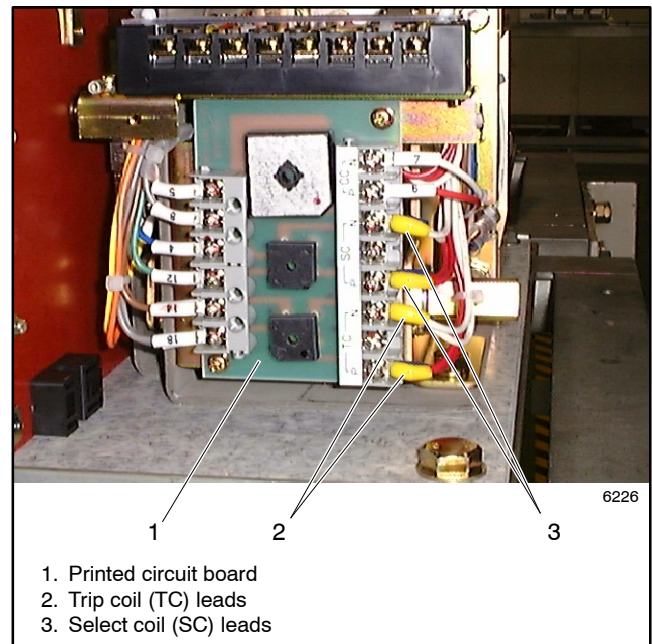
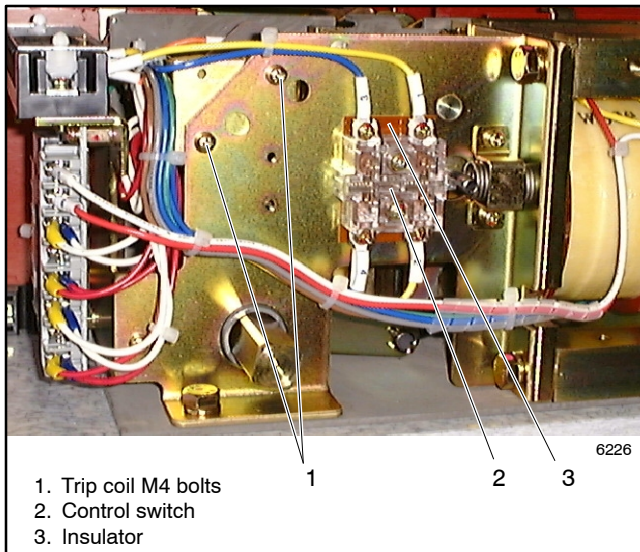
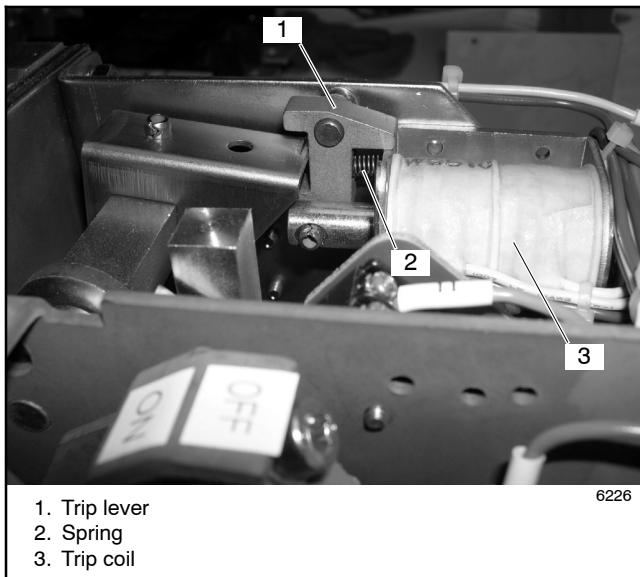

Figure 8-32 Circuit Board Connections
Figure 8-33 Trip Coil Replacement, 600 Amp Models
Figure 8-34 Trip Coil
1. Note the connections and disconnect the trip coil leads from the printed circuit board and the control switch. See Figure 8-32 and Figure 8-33.
2. Remove two M4 bolts and replace the trip coil. Retain the small spring for the trip coil lever. See Figure 8-33 and Figure 8-34.
1. Note the connections and disconnect the select coil leads from the printed circuit board and the control switch. See Figure 8-32 and Figure 8-33.
1. Note the connections and disconnect all leads to the circuit board. See Figure 8-32.